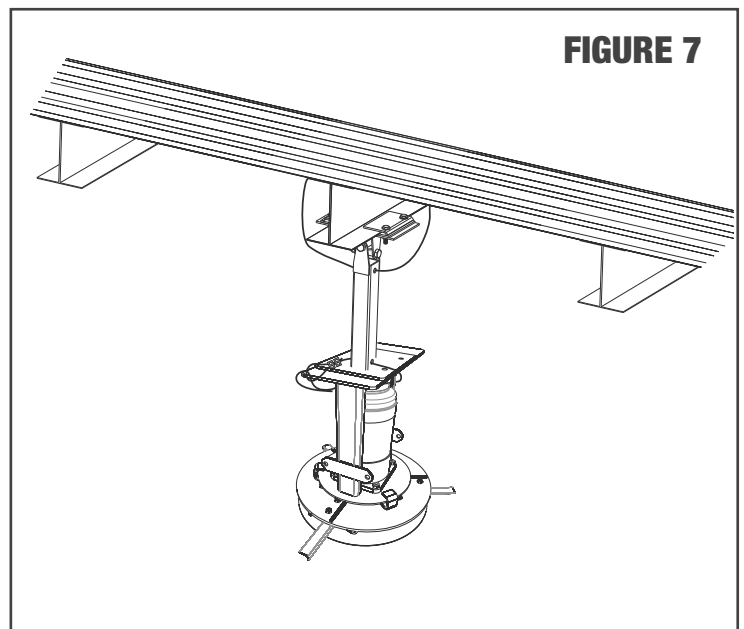

FIGURE 7
2. Position the safety cable as per **Figure 7**, loop at both ends.